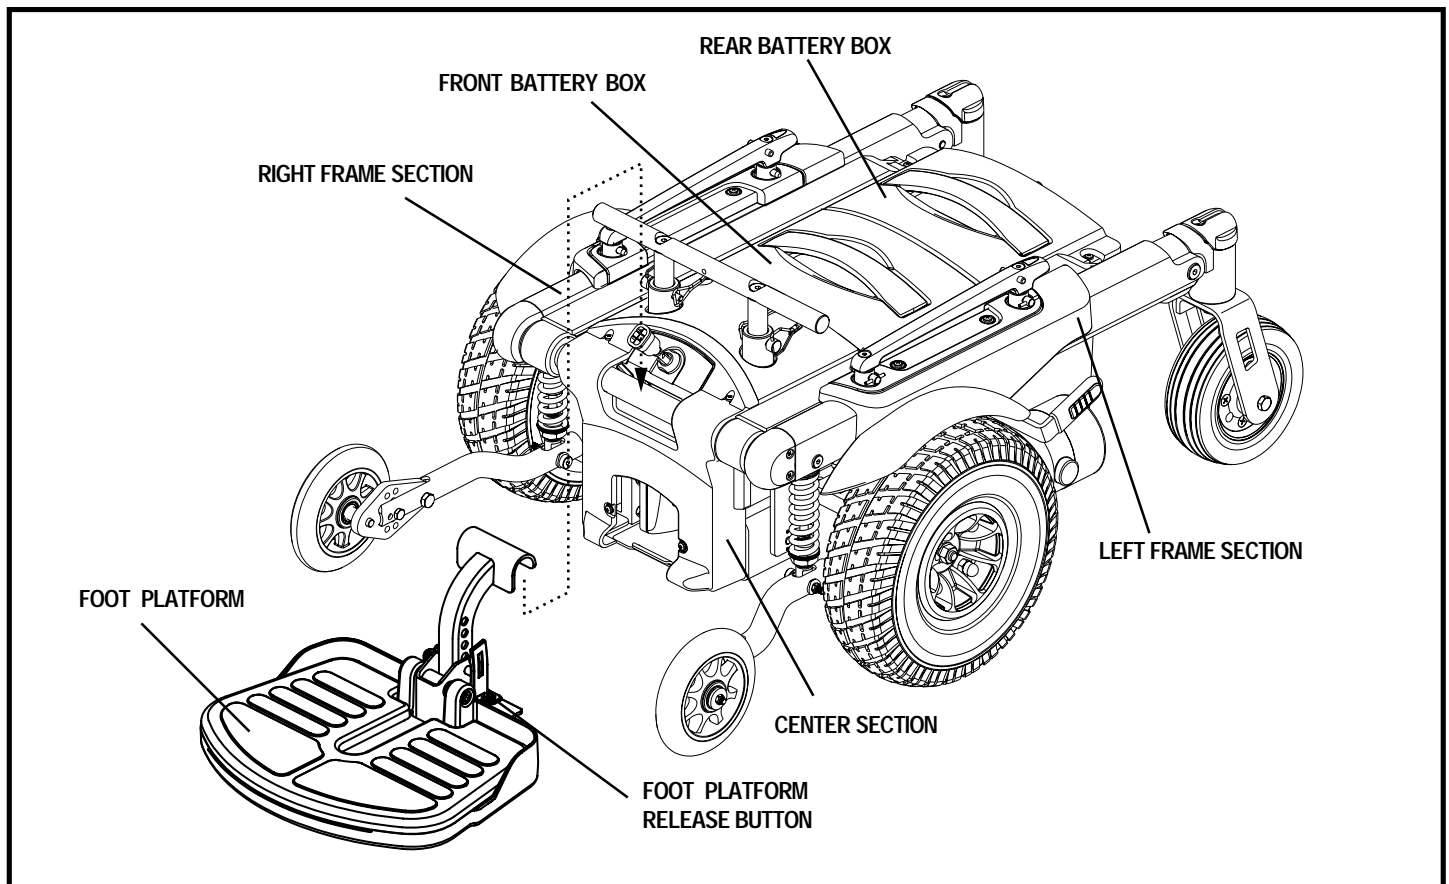

Figure 13. Quantum 1107 Power Base Parts
The Quantum 1107 power base disassembles into six parts for easy transportation and storage. See figure 13.
4. Press the foot platform release button and lift off the foot platform. See figure 13.